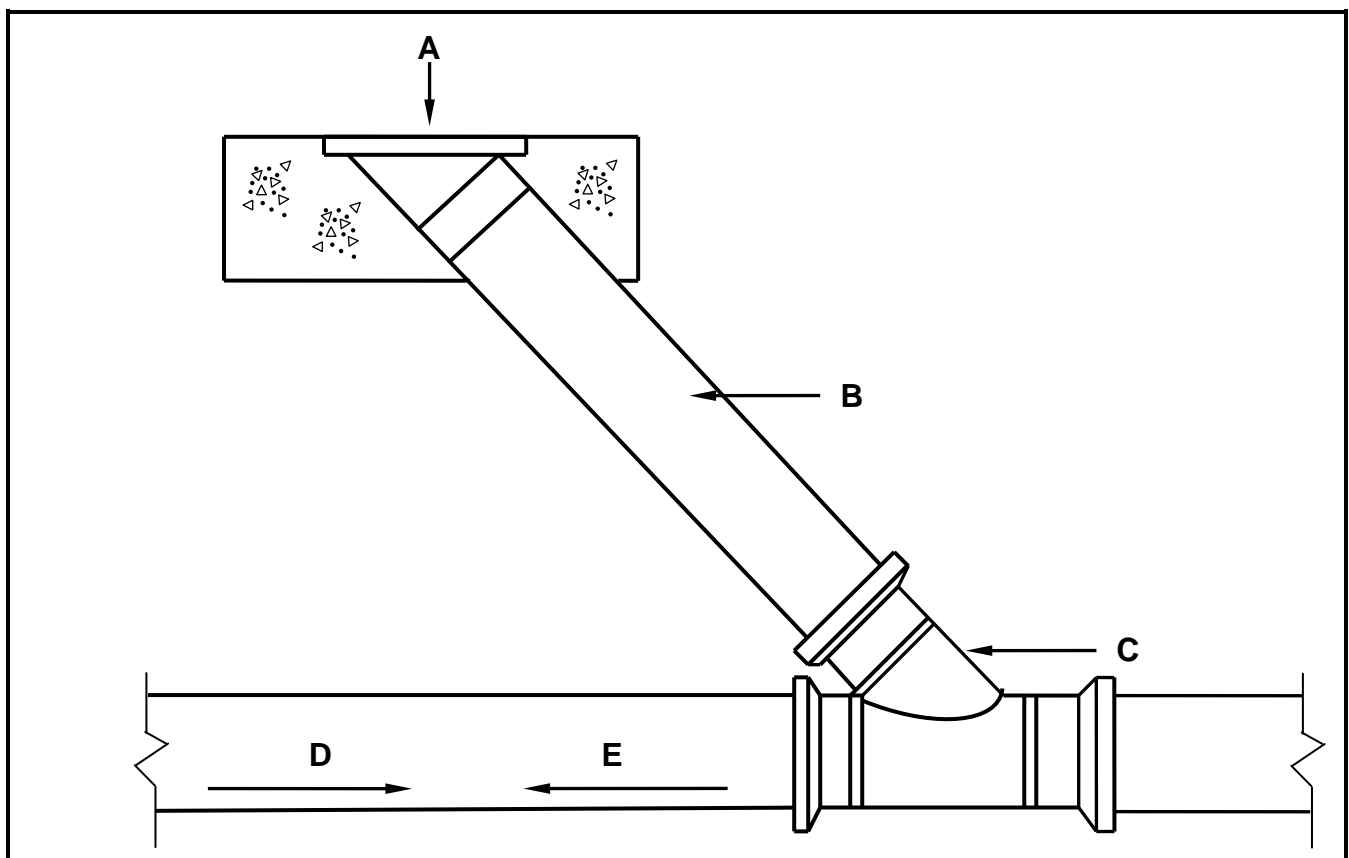

FIGURE 3.3
- 3.3 FIGURE 3.3 below shows part of a sewerage system. Analyse the illustration and answer the questions that follow.